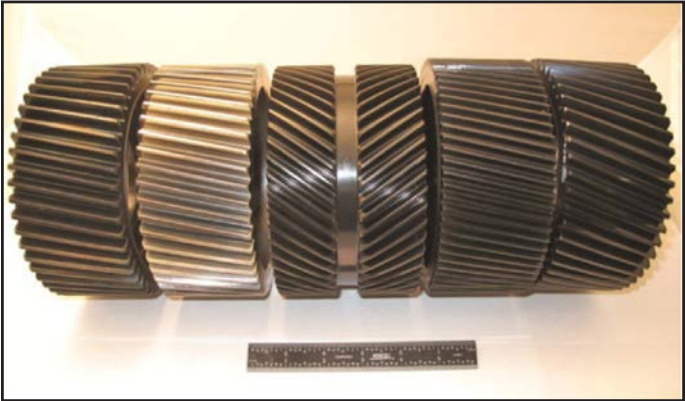

Figure 5 Photograph of input gear designs; baseline, baseline + ISF, double-helical, fine pitch, and increased helix angle.
**Test hardware.** The gearing components used in the test program included four different gear designs. There is the baseline (currently used aircraft design), baseline with isotropic superfinishing (ISF), double-helical, fine pitch, and increased helix angle designs. The design information for all four cases is provided in Table 1. The same gear material, Pyrowear 53, was used in all gearing components and all were manufactured with the same surface finish and gear quality. A photograph of the input gear designs is shown (Fig. 5). The gearing components are shown dur-